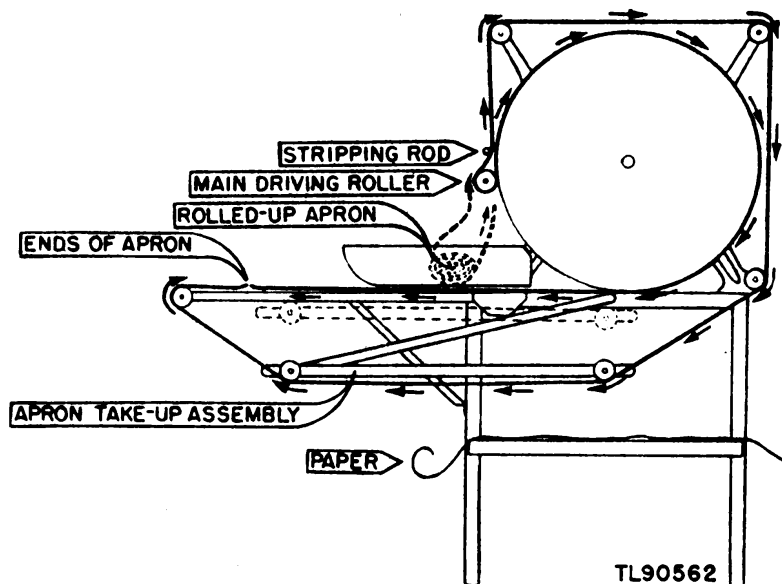

Figure 12. Apron installation.
b. Reassembly. (1) Place a large piece of paper on the integral stays between the legs to avoid soiling the new apron. Raise the apron take-up assembly to the position indicated by dotted lines in figure 12, and tie it to the feeding table arm. Place the new, rolled-up apron in the print tray.
(2) Draw the free end of the apron under the main driving roller assembly and over and around the drum assembly with the canvas
duck side of the apron towards the drum. Bring this end above the take-up rollers to the position shown in figure 12.